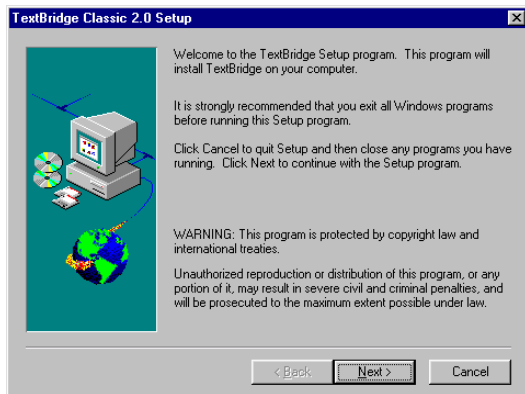

Figure 6: Installing TextBridge Classic
1. Start the installation of TextBridge Classic after the installation of Adobe Acrobat Reader has been completed. Figure 6 will appear.